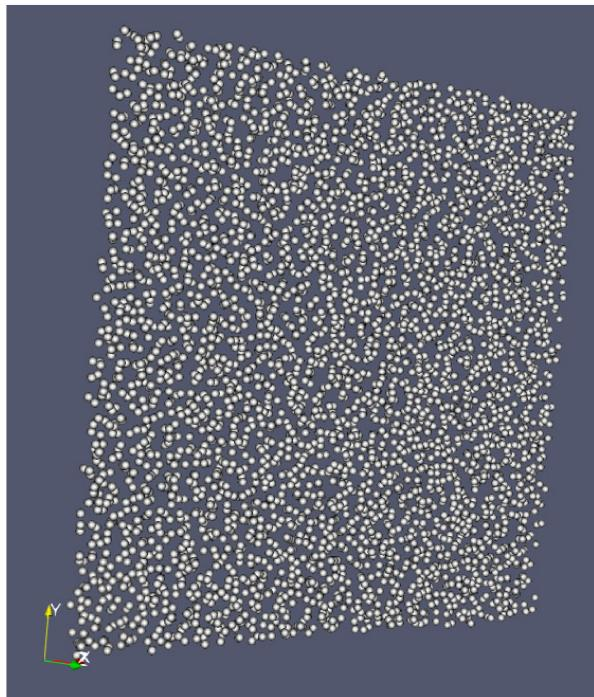

Fig. 16.3: : Particle image generated with ParaView
4. Change the Gaussian Radius if you like. You can scroll through the frames with the VCR-like controls at the top, as shown in Fig. 16.3.